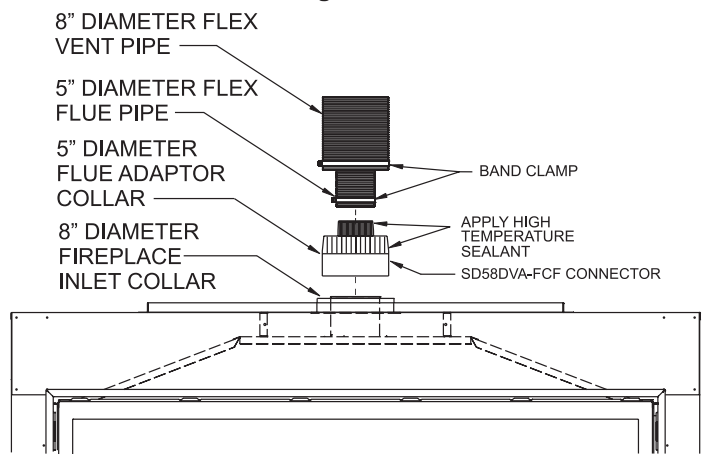

Figure 59b
NOTE: For installation of Flex Venting on Fireplaces that have Flue and Inlet Vent collars flush with top of the fireplace, it is recommended that an SD58DVA-FCF Connector be used. When using the SD58DVA-FCF Flex Vent Connector, it will require removing (or cutting off) the 5" diameter adapter from the DVVK5F Flex Flue. **See Step 10b and Figure 59b.**
- 10b.** If using the SD58DVA-FCF Vent Connector, apply sealant to the inside of the 5" diameter flex flue pipe, then connect the flex flue to the 5" flue takeoff on the SD58DVA-FCF Connector. Use a 5" diameter band clamp and a minimum of two screws to secure the flex flue to the SD58DVA-FCF Connector. **See Figure 59b.**